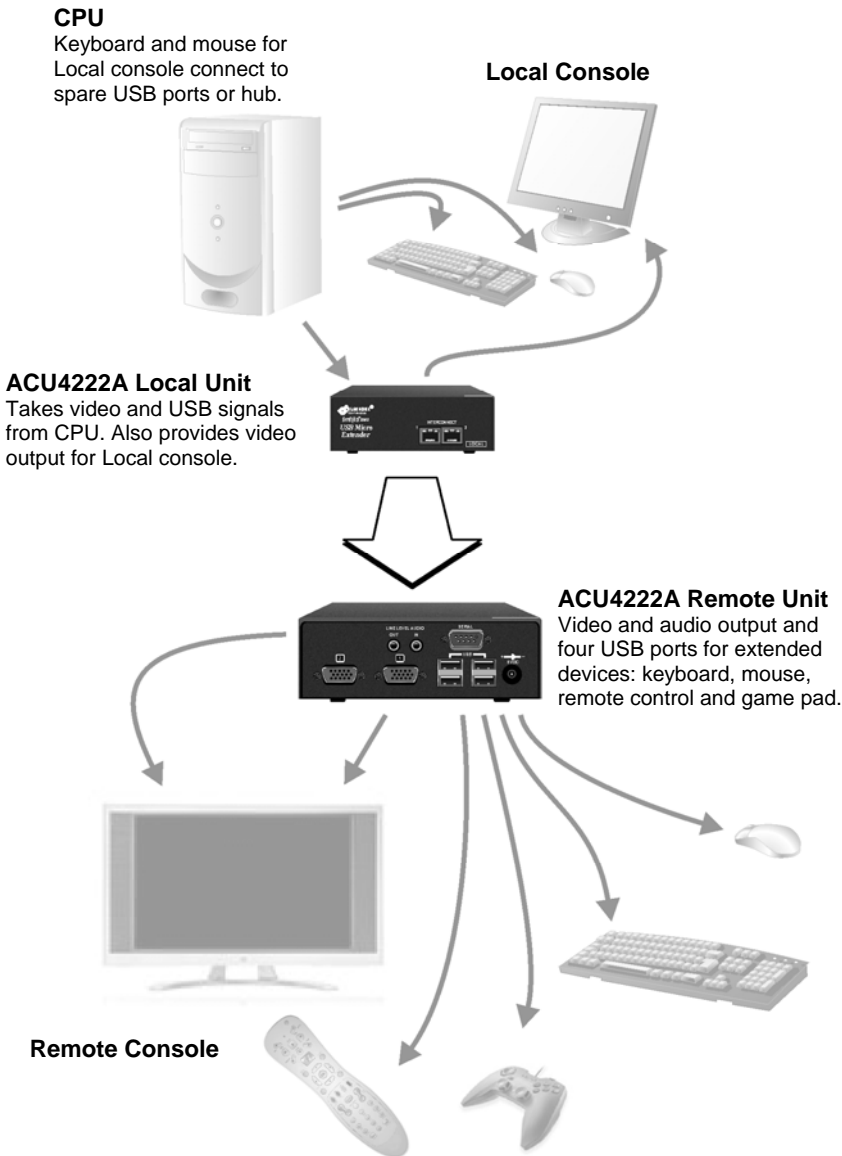

Figure 8 Home entertainment system
- ACU4222A configured for home entertainment system with extension of USB devices (remote control, game pad, keyboard and mouse) and video (Figure 8). Use of USB Micro Extender allows clutter and noise of CPU to be removed from viewing area.